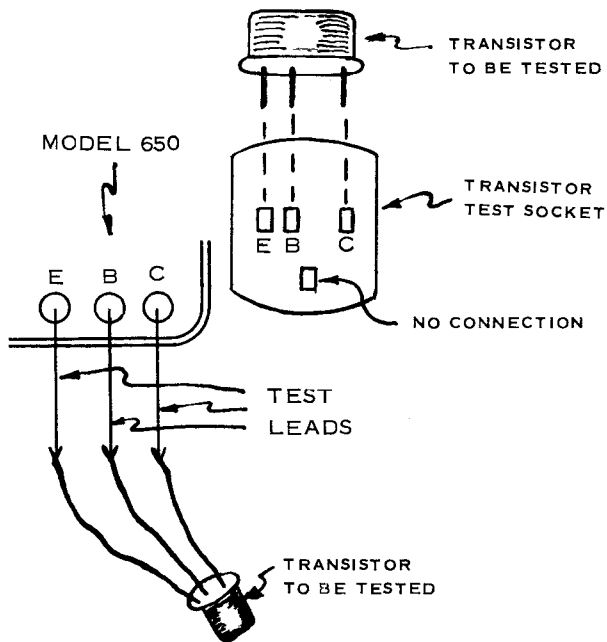

FIGURE 4 - TRANSISTOR TEST CONNECTIONS
1. Insert the transistor to be tested into the transistor test socket. Be sure the transistor is inserted correctly (see figure 4).
If the transistor has long leads, it may be more convenient to use test leads and the three jacks marked E, B, and C (see figure 4).